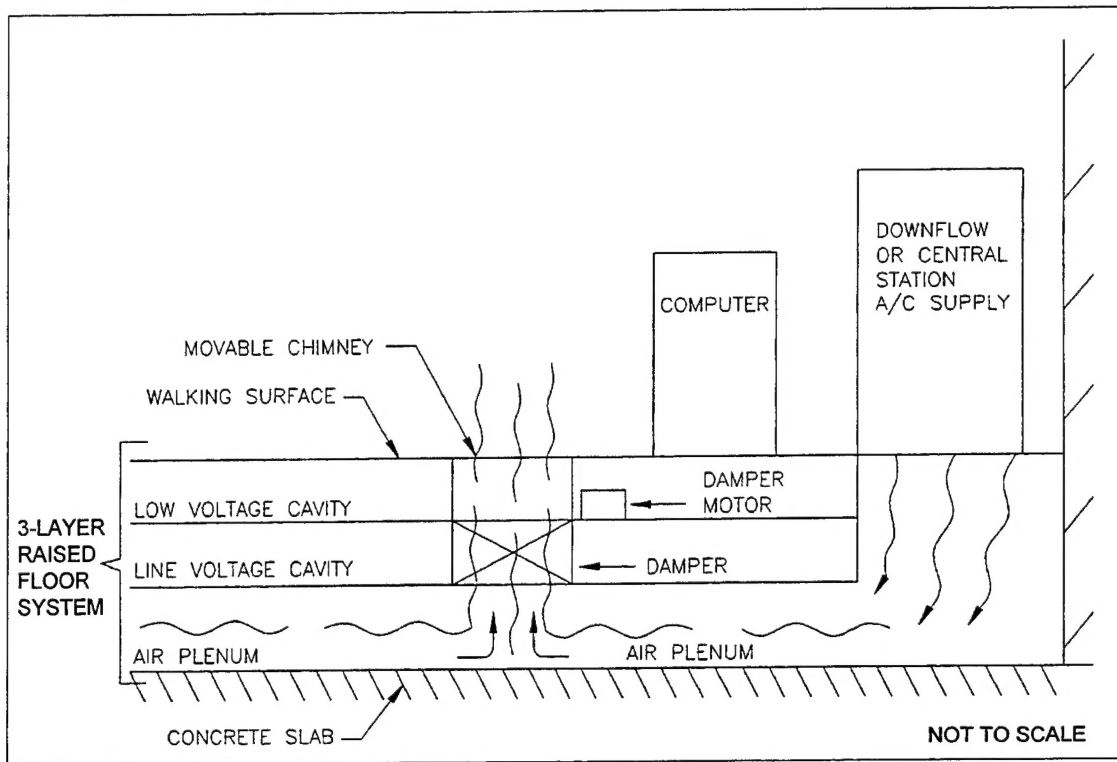

Figure 1. Lower layer of the floor is a sealed plenum with chimneys that supplies cool air where needed.
- The lower layer is a sealed plenum with "chimneys" to supply cool air where required. See Figure 1.